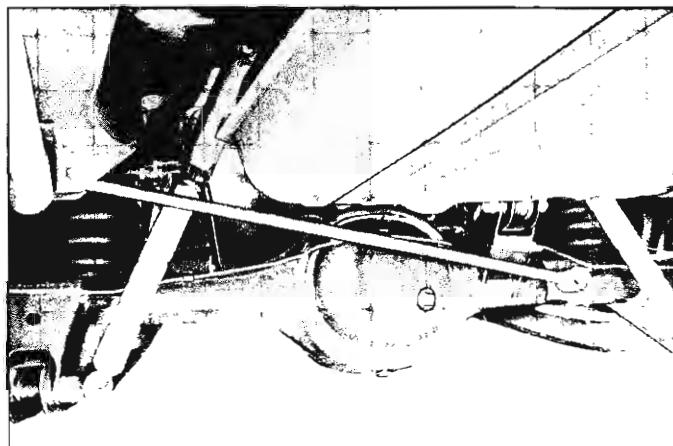

Fig. 16—Rear Suspension Tie Rod Attaching Points
2. Withdraw the rear suspension tie rod after removing the left hand nut, washer and bolt, and the nut and washer off the right hand stud (fig. 16).